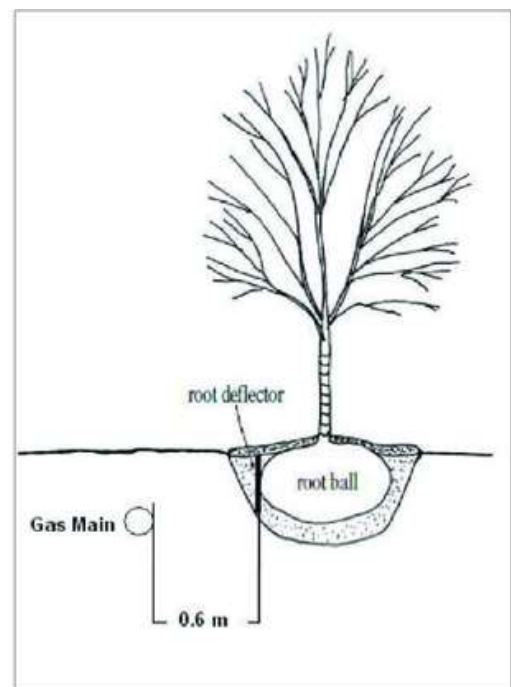

Figure 2-1: Root Deflector
- No trees are permitted to be planted except in special case where engineered measures may allow trees to be planted in certain urban settings. (Figure 2.1)
Typically root deflectors are installed 0.6 m (2 ft.) from the pipeline on the tree-side of the pipeline and extend 1.2 m (4 ft.) from the center of the tree trunk, parallel to the pipeline, in both directions, or encircle the tree. Root deflectors usually have a collar to keep the top of the deflector at ground level and extend down to the bottom of the root-ball as shown in *Figure 2-1: Root Deflector*.